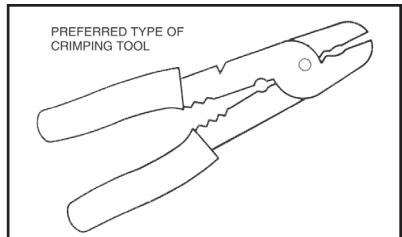

Fig. 2
2. Strip 1/4" of insulation from the lead wires. Crimp terminals provided onto correct polarity wire using the recommended tool (see Fig. 2). Install the lead wires onto the pump terminals, making sure that proper polarity is maintained. If installed incorrectly the pump will run backwards and will not pump.